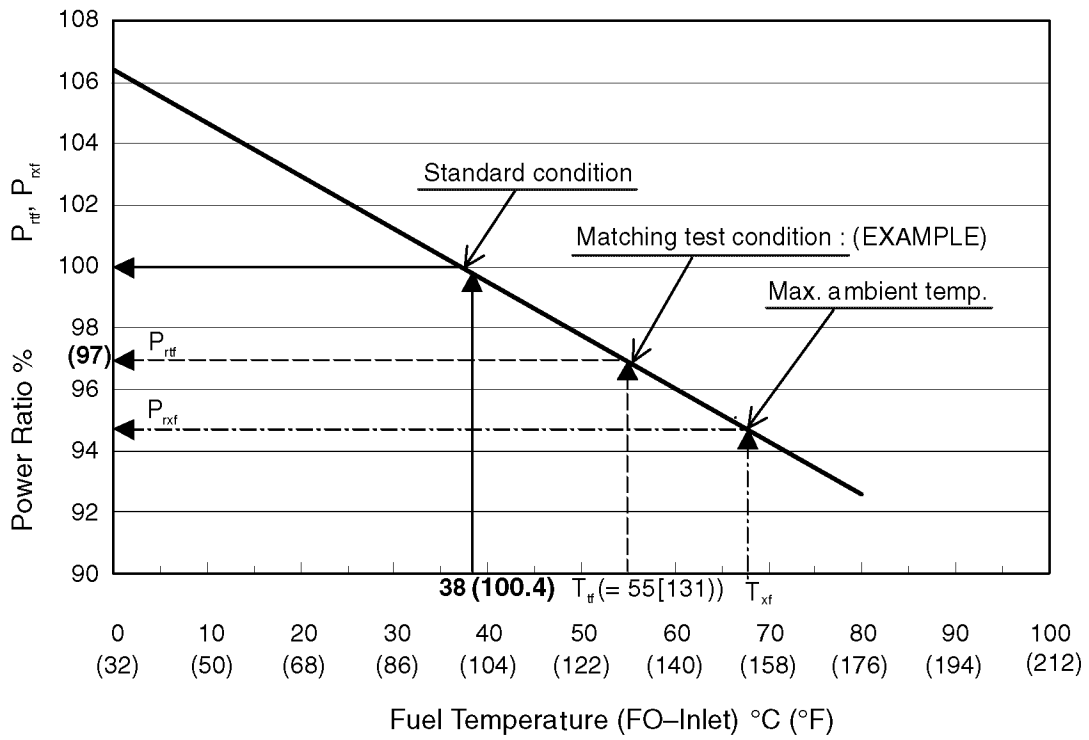
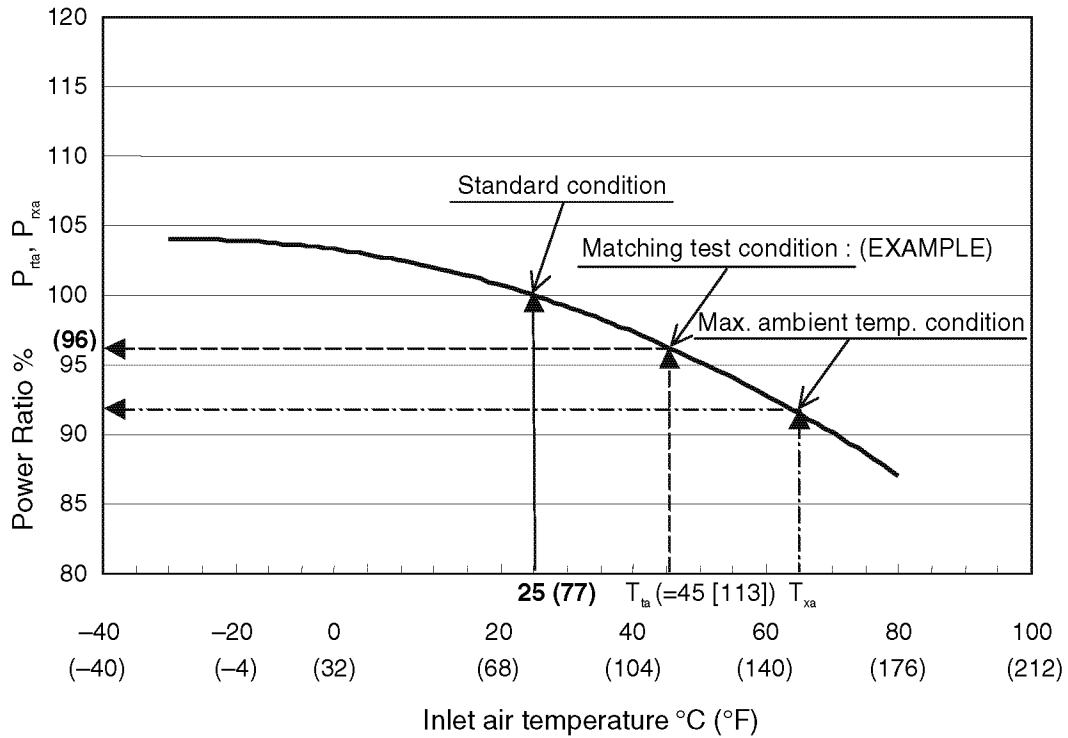

Figure 8-8
Figure 8-9
Engine output and torque are guaranteed under the conditions shown in the previous section. Performance is significantly affected, however, by how the engine is installed and the ambient conditions. Performance is also significantly affected by the diesel fuel and intake air temperatures. **(Figure 8-8)** and **(Figure 8-9)** show the effect of temperature. Perform the output matching test in the development stage to verify that the machine functions as specified even though temperature changes occur.
2. Find the output ratio from the fuel temperature and **(Figure 8-8)**. For example, when the fuel temperature  $T_{ff}$  is 55°C (131°F), the output ratio  $P_{rtf}$  is 97% (0.97).
3. Find the output ratio from the intake air temperature and **(Figure 8-9)**. For example, when the intake air temperature  $T_{ta}$  is 45°C (113°F), the output ratio  $P_{rta}$  is 96% (0.96).
4. Plot these  $T_{xf}$  and  $T_{xa}$  on **(Figure 8-8)** and **(Figure 8-9)**, respectively.
The allowable limit of fuel temperature is 80°C (176°F). When it is estimated that the fuel temperature  $T_{xf}$  in *Evaluation of Output Matching for General Purpose Industrial Machines on page 8-16* exceeds 80°C (176°F), consider taking the sixth action described in *How to Interpret Test Data and Criteria on page 8-12*. However, if the engine output is set at 38°C (100.4°F), power correction according to **(Figure 8-8)** should be necessary.